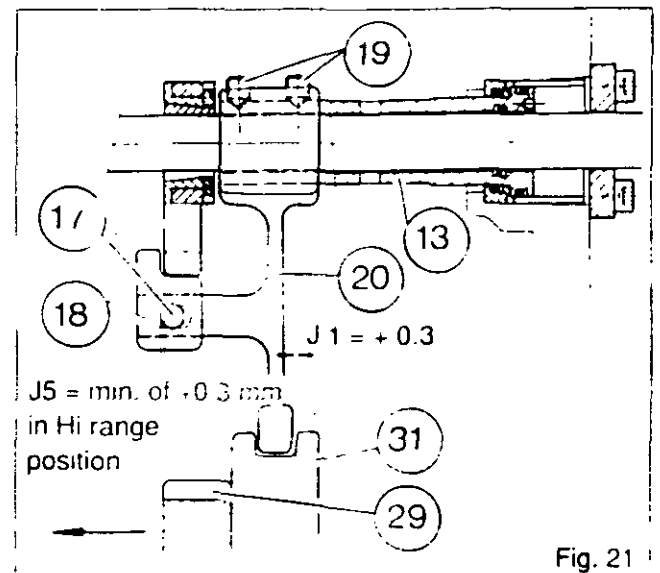
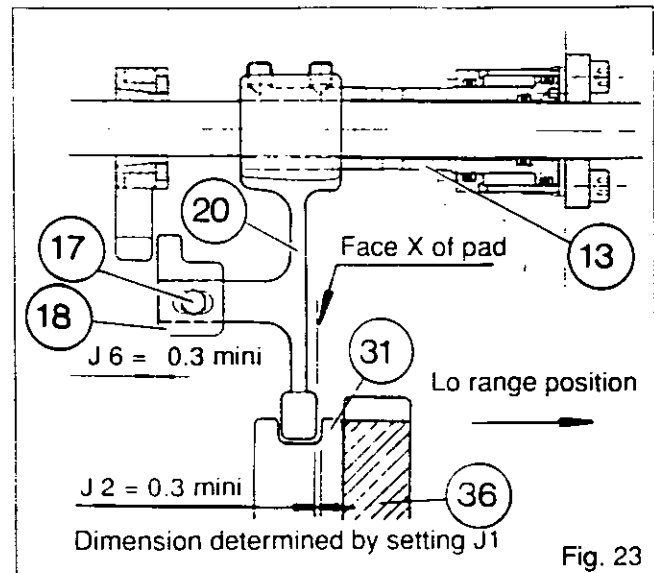
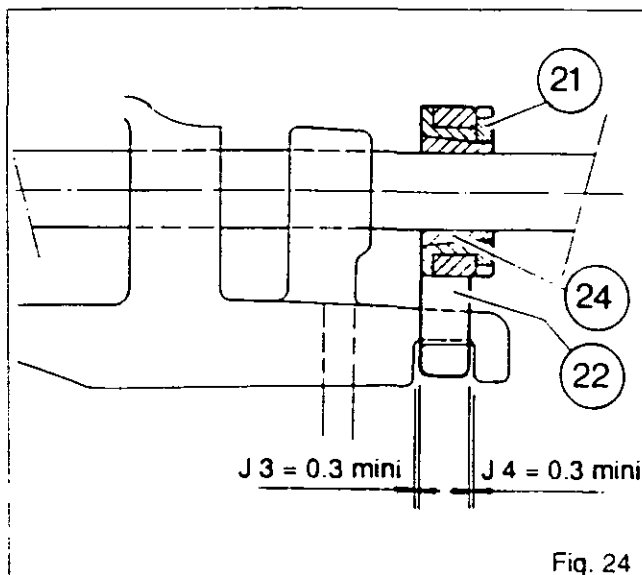
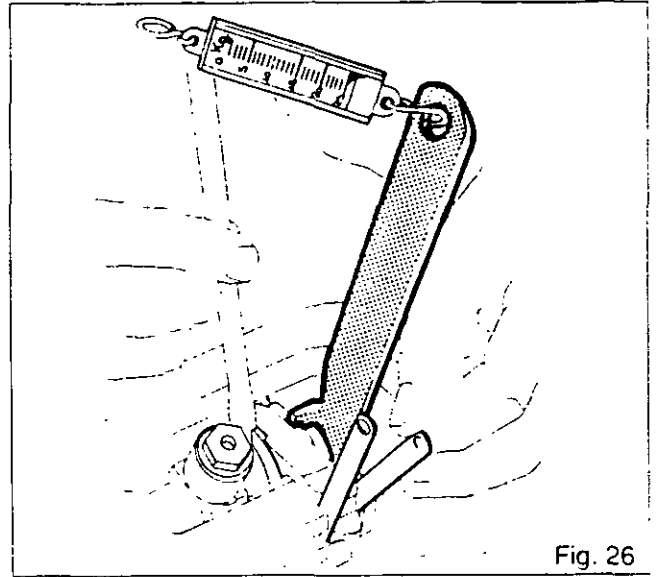

Fig. 21
Fig. 23
Fig. 24
Fig. 26
77. Set control piston (13) and coupling ring (31) to the Hi range.
78. Hold the coupling ring pressed against the Hi range gear (29) (Fig.21) (3rd speed in 4 x 2 gearbox, 4th in 4 x 4 gearbox).
79. Having cleaned the two adjusting screws (19) with a solvent and coated them lightly with Loctite 221, use them to adjust the position of fork (20) to set a clearance of  $J1 = 0.3 \text{ mm}$  between the rear face of the pad and the coupling ring (Figs.21 and 22).
80. Set control piston (13) and coupling ring (31) to the Lo (Tortoise) range.
81. Check that there is a clearance of  $J2 = \text{min. of } 0.3 \text{ mm}$  (dimension determined by setting  $J1$ ) between pad and coupling ring with the latter hard against Lo range gear (36) (Fig.23). Tighten the screws to a torque of 35 Nm without disturbing the adjustment.
**N.B.:** In the Lo (Tortoise) position, if face X of the pad on fork (20) is in contact with the coupling ring (Fig.23), increase clearance  $J1$ .
83. Unscrew lock ring (21) slightly. Apply Loctite 270 sparingly to the thread on cone (24).
85. Set clearances  $J3$  and  $J4$  to be of equal size (min. = 0.3 mm) so that the mechanical locking gate (22) can operate freely (Figs.24 and 25)
86. Tighten lock ring (21) to 50 Nm with spanner 3615334 M01 and a spring balance (Fig.26).
87. Apply Loctite 648 to the clamping face of slider (18) and Loctite 648 to bolt (17). Fit the bolt and washer.
88. Adjust the clearances J5 and J6 (min. of 0.3 mm) between the slider and the locking gate to be equal in the Hi and Lo positions (Figs.21, 23, 27 and 28).